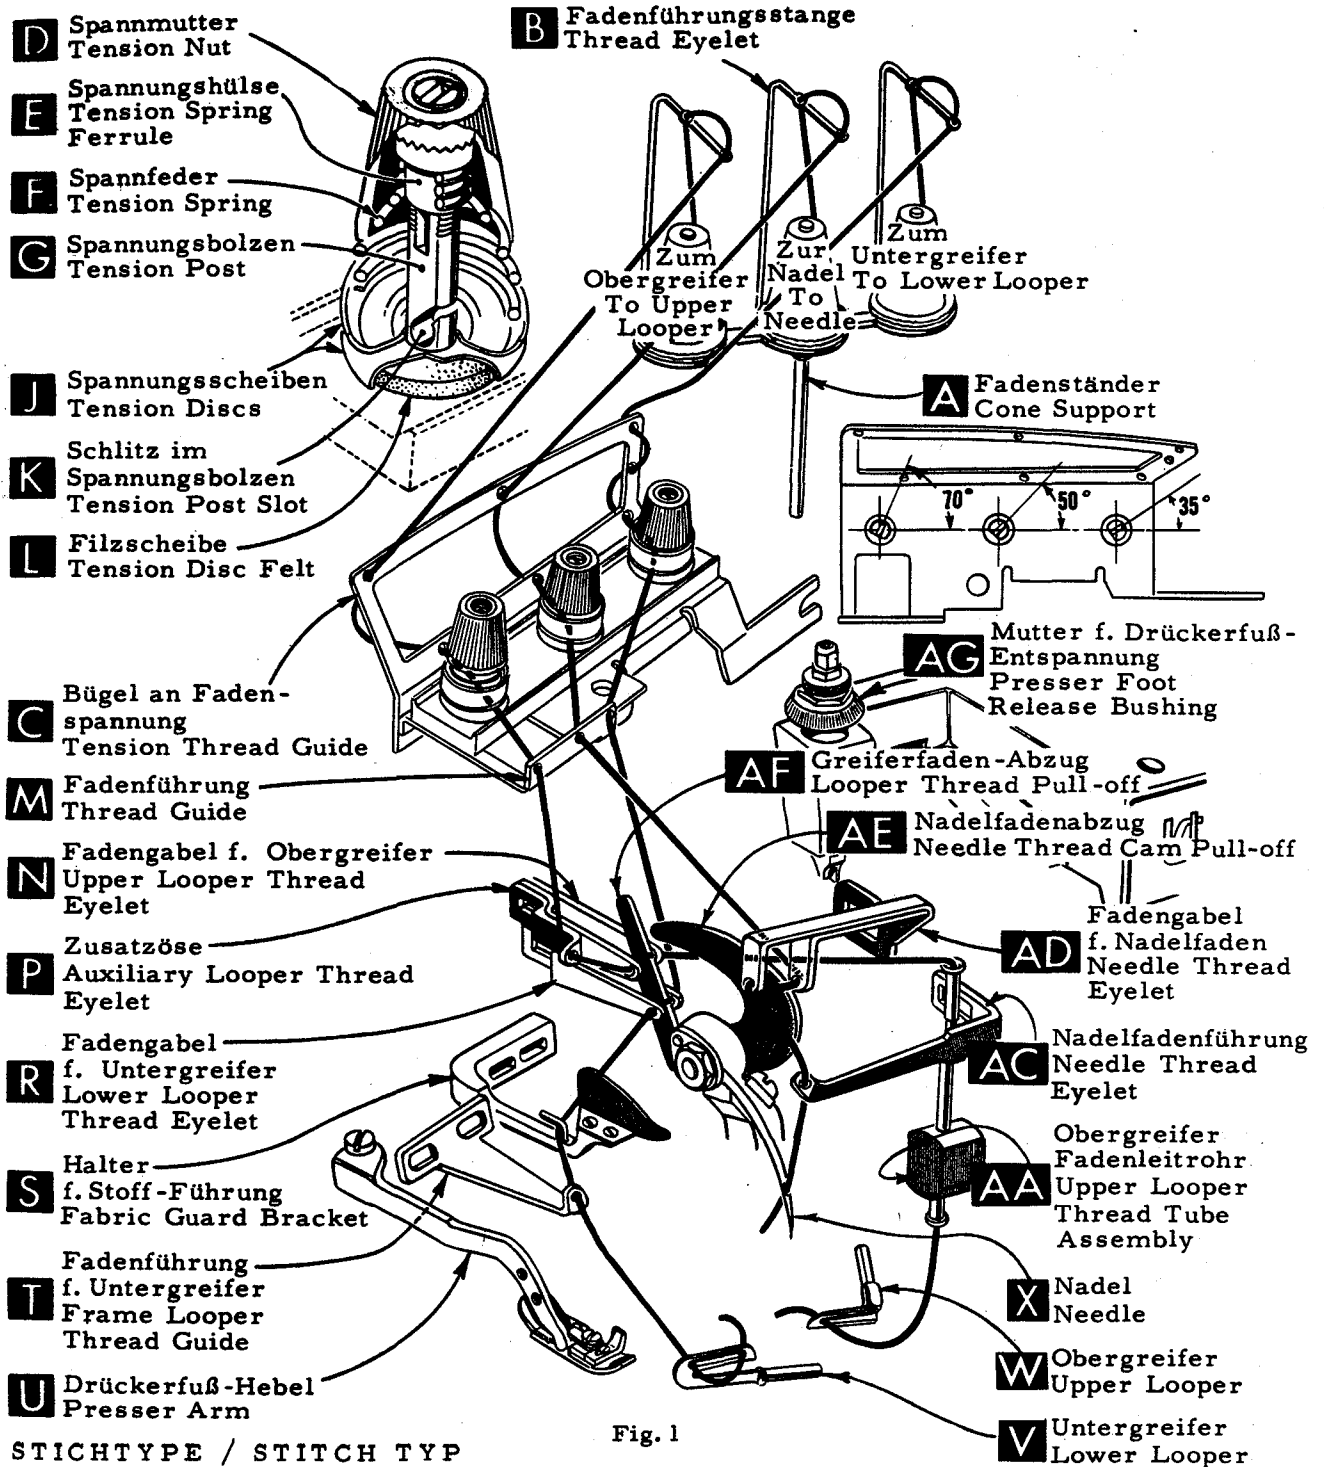

Fig. 1
After thread comes from cone on cone support (A, Fig. 1 A) it is brought up through the back hole of thread eyelet (B), then down through the front hole of thread eyelet. The needle thread is then threaded through the upper hole of tension thread guide (C) from front to back, and then through the lower hole from back to front. The lower looper thread is threaded through the upper hole back to front, through the middle hole from front to back, and finally through the lower hole from back to front. Both threads then continue between the tension discs (J), through tension post slot (K) in tension post (G) and on through front thread guide (M).
After thread comes from cone on cone support (A, Fig. 1, 1B, 1C or 1D) as applicable. It is brought up through the back hole of thread eyelet (B), then down through the front hole of thread eyelet. The needle and upper looper threads are then threaded through the upper hole of tension thread guide (C) from front to back, and then through the lower hole from back to front. The lower looper thread is threaded through the upper hole back to front, through the middle hole from front to back, and finally through the lower hole from back to front. All three threads then continue between the tension discs (J), through tension post slot (K) in tension post (G) and on through front thread guide (M).
Only parts involved in threading are shown in threading diagrams (Fig. 1, 1A, 1B, 1C and 1D). Parts are placed in their relative positions for clarity.